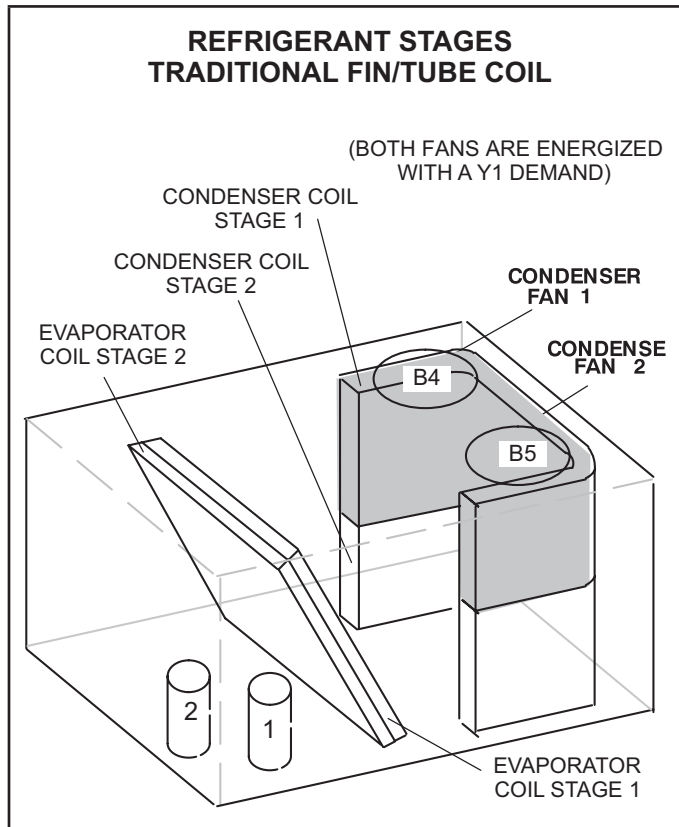

FIGURE 22
- 2 - Units have two refrigerant circuits. See FIGURE 22.